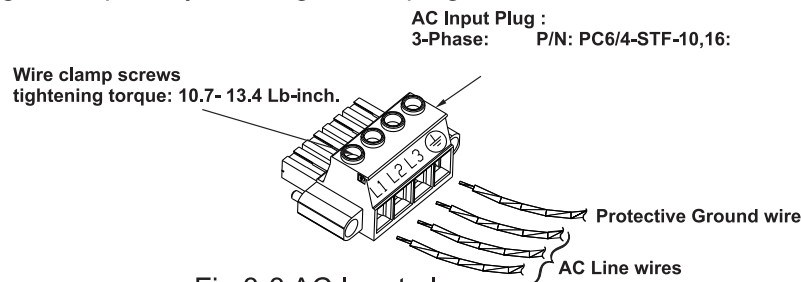

Fig.3-3 AC Input plug
4. Connect the AC wires to the terminals of the input plug supplied with the unit. To connect the wires, loosen the terminal screw, insert the stripped wire into the terminal and tighten the screw securely (10.7-13.4 Lb-inch.). Refer to Fig. 3-3 for details. Pay attention to connect the wires according to the polarity marking on the plug.